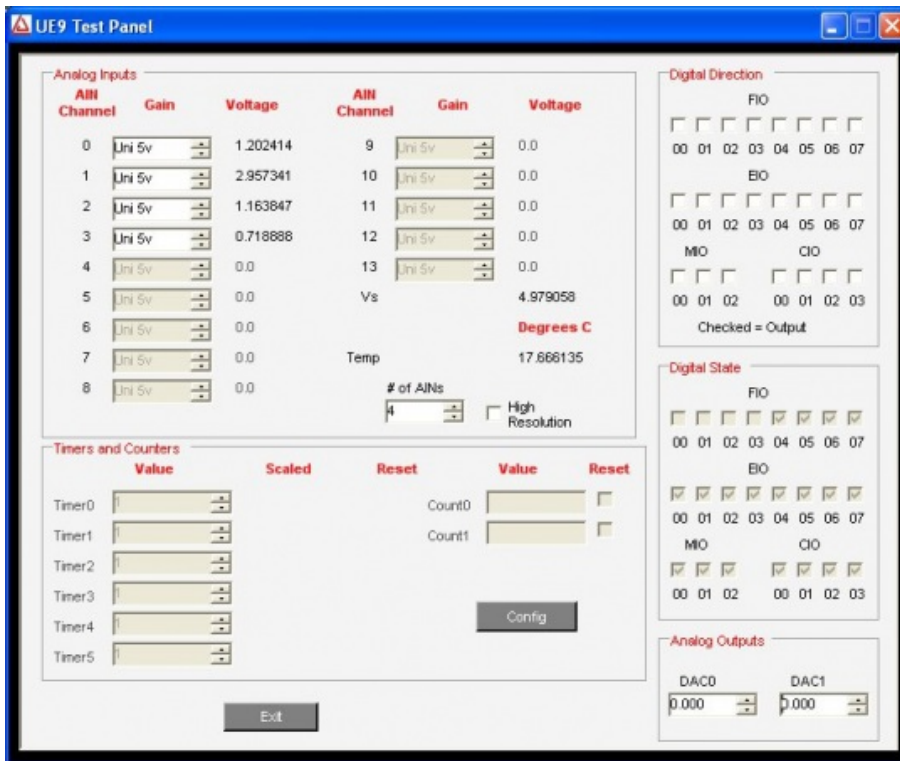

Figure 1-2. LJControlPanel Test Window
- Test: Opens the window shown in Figure 1-2. This window continuously writes to and reads from the selected LabJack.